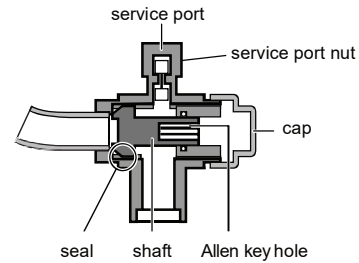

Fig. 9-6
1. Loosen and remove the service port nuts of valves A and B, and connect the charging hose of the manifold valve to the service port of the isolation valve A. Ensure that the isolation valves A and B are both closed (Fig. 9-6).